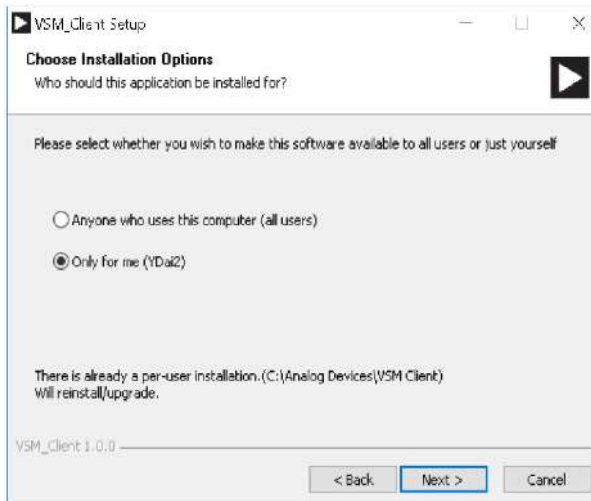

Figure 10. Choose Installation Options
3. Select **Only for me** and click **Next >** (see Figure 10). Do not select **Anyone who uses this computer (all users)**, as this option can cause the installation to suspend or fail.